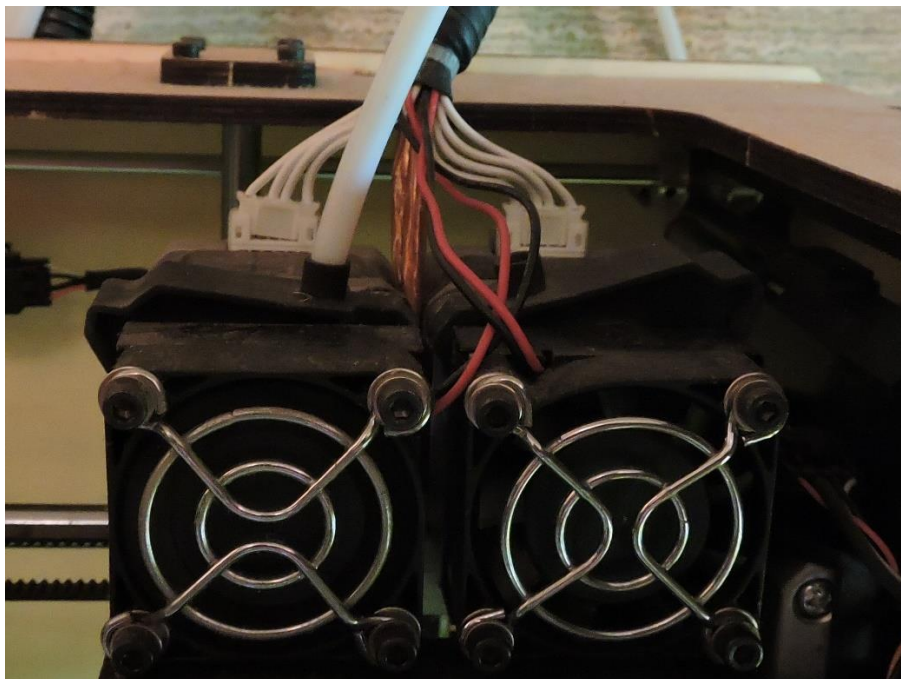

Figure 15 : The Feeding Tube in its Final Position
10. Plug the feeding tube securely into the top of the print head. See Figure 15.